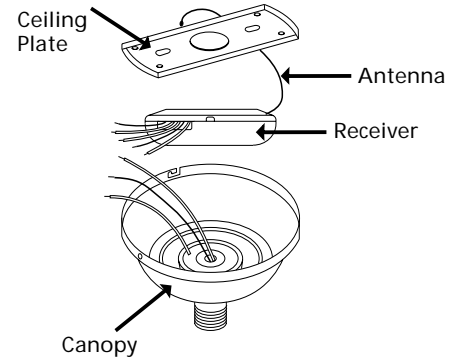

Figure 6e - Positioning the Receiver Inside of the Canopy
3. Place receiver inside the canopy under the ceiling plate. Refer to Figure 6e. Be sure to keep the antenna positioned securely on top of the receiver. Do not modify or damage the antenna wire, as control performance may be reduced.